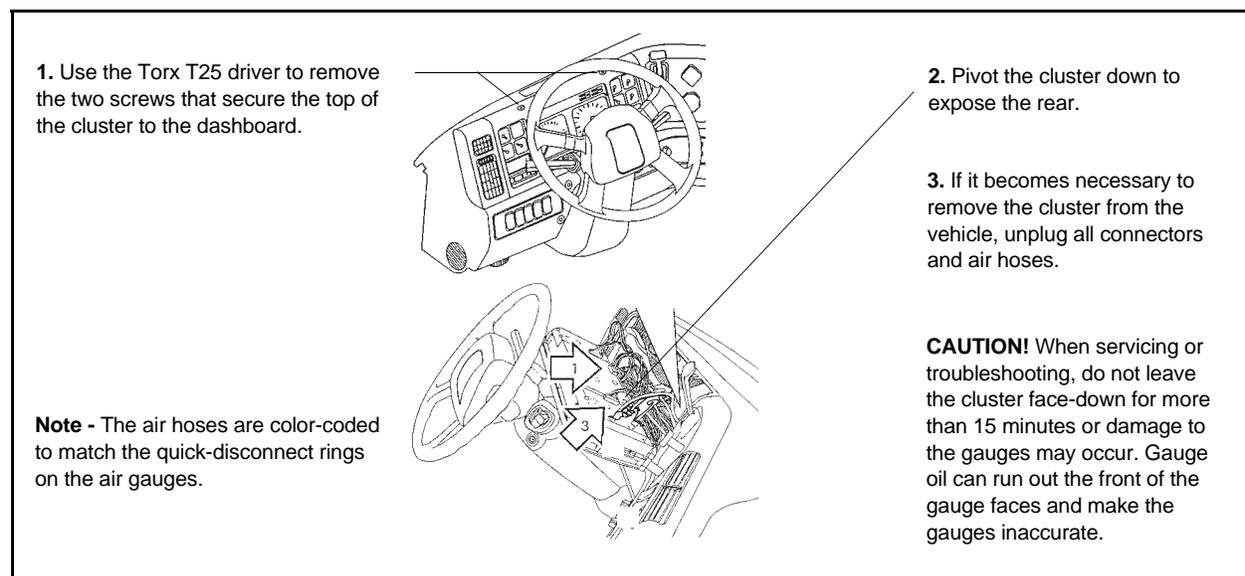

Figure 1 *Gaining access to the rear of the cluster*
1. Verify the ignition is OFF, then gain access to the cluster by following the instructions in Figure 1.